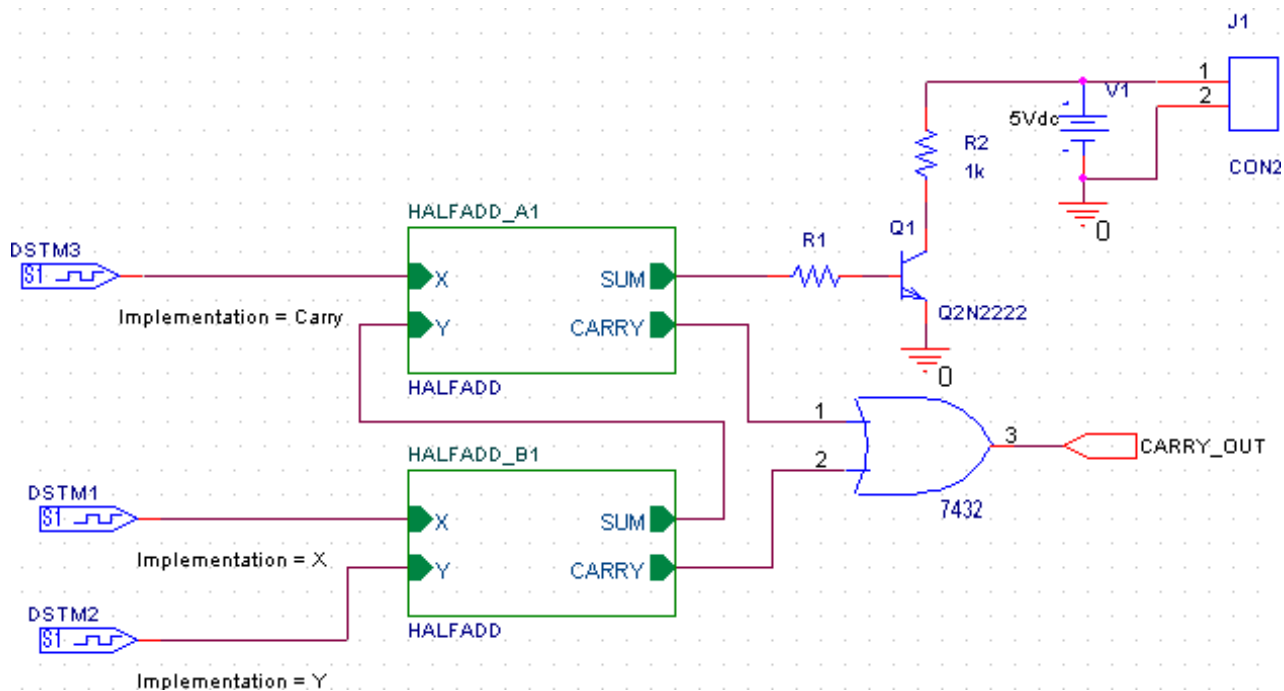

Figure 2-3 Full adder circuit with output through a transistor
- 4 From the part list, add resistor R. Place this resistor on the schematic and connected one end of the resistor to the SUM port of HALFADD_A1. See Figure 2-3 on page 27.
- 5 From the EVAL.OLB, select Q2N2222 and place it on the schematic. See Figure 2-3 on page 27.
- 6 Complete the circuit by adding a collector resistance, Collector Voltage, and ground. See Figure 2-3 on page 27.
- c. Place the voltage source on the schematic. See Figure 2-3 on page 27.
- d. Place the ground symbol on the schematic. See Figure 2-3 on page 27.